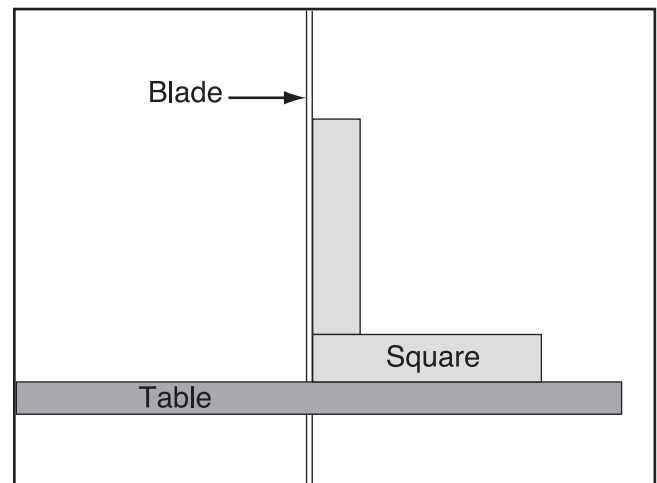

Figure 24. Squaring table to blade.
4. Raise the guide post and place a machinist's square on the table next to the side of the blade, as illustrated in **Figure 24**. Adjust the table square with the blade, then secure with the table tilt knobs.